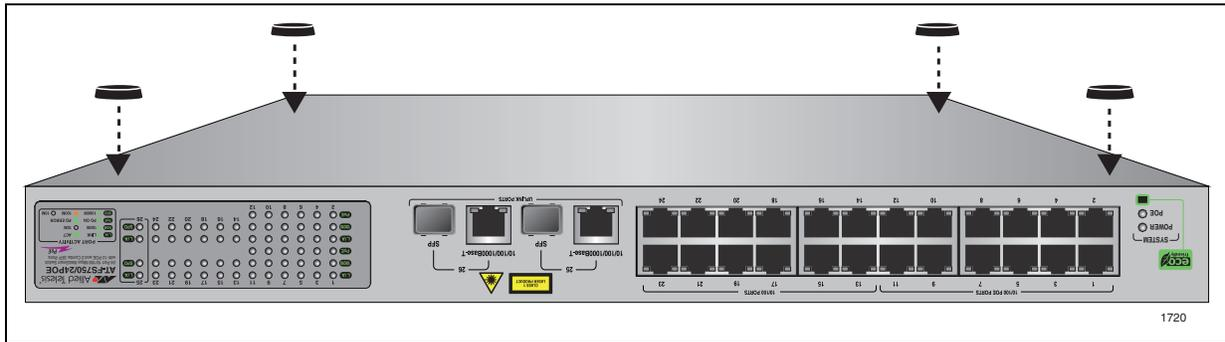

Figure 7. Attaching the Rubber Feet
2. Turn the switch over and attach the four rubber feet to the bottom of the switch as shown in Figure 7.